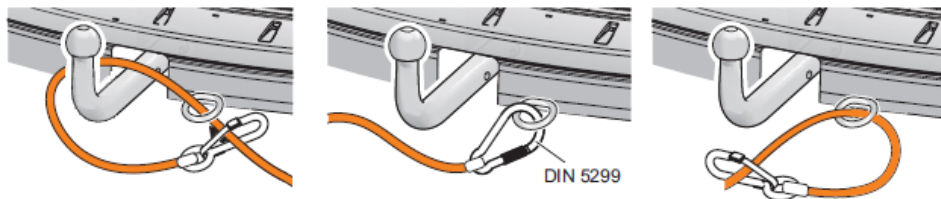

Figure 22 - Breakaway cable
3. Attach the breakaway cable to a suitably strong point on the vehicle (Figure 22).